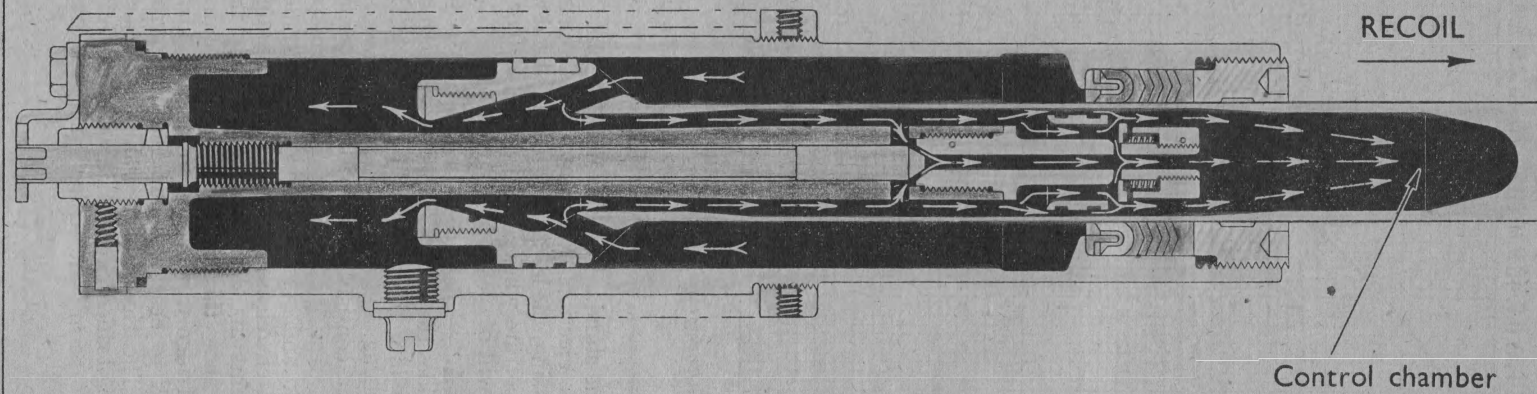

FIG. 7.
**Action** (Fig. 7).—During recoil, the piston rod is drawn to the rear of the buffer cylinder over the control rod, thereby forcing the liquid from the rear to the front of the piston through the eight ports in the piston and through the piston rod throttling bush when the effective flow space is regulated by the tapered control rod, thereby controlling pressure in the cylinder and setting up a fluid resistance which absorbs and checks recoil. The pressure of the liquid also forces the non-return valve off its seating, thereby opening the four ports in the valve seat through which liquid passes to the rear of the valve seat in the control chamber.